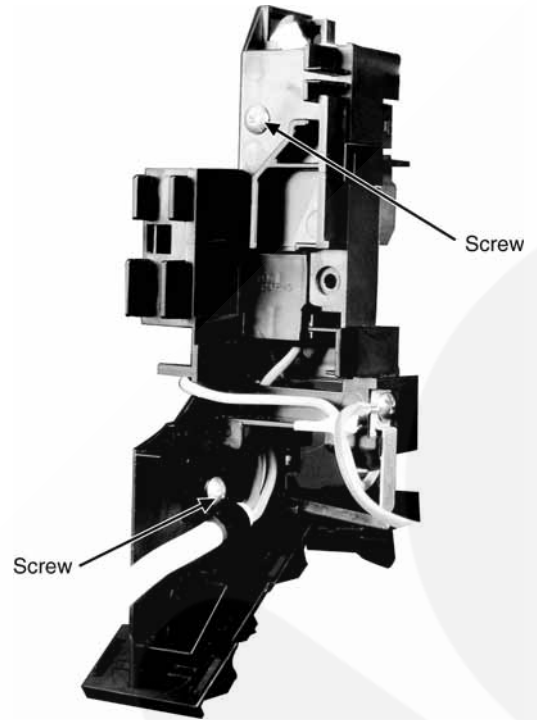

Fig. 17
1. Detach the Power supply cord screw. (Fig.17)
2. Remove screw at Terminal Board Complete. (Fig.17)
4. Removed live (brown) and neutral (blue) wire. (Fig.17)